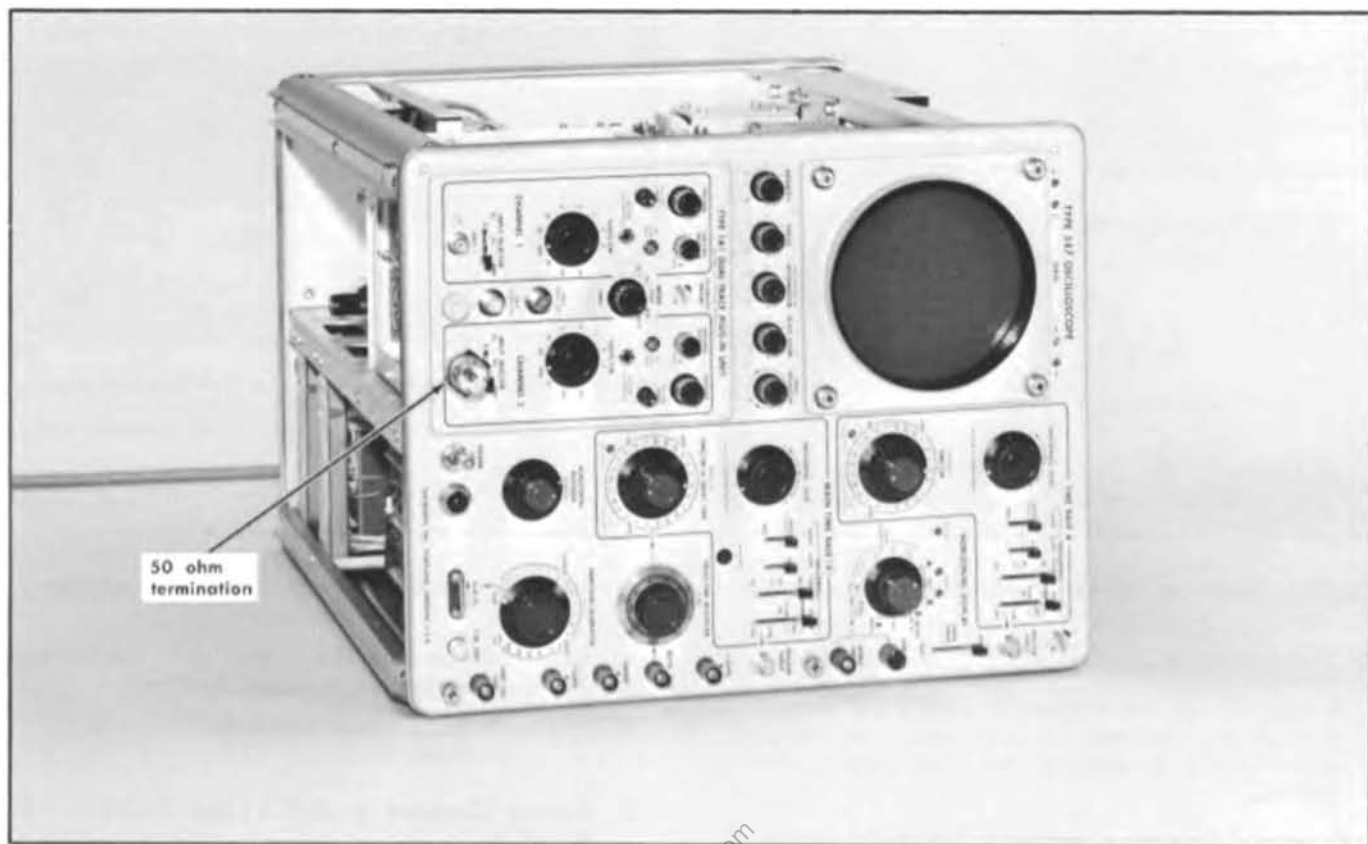

Fig. 7-13. Equipment setup for steps 11 through 16.
- a. Equipment setup is shown in Fig. 7-13.
- a. Equipment setup is shown in Fig. 7-13. (The 50-ohm termination is not used.)
- a. Equipment setup is shown in Fig. 7-13. (The 50-ohm termination is not used).